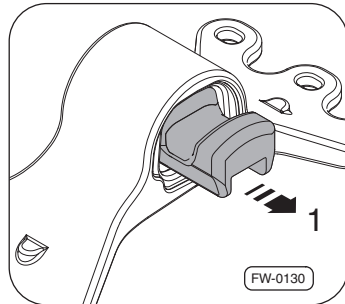

Fig. 40 · Remove rubber dampers
3. Check and press out –arrow 1– the rubber dampers Fig. 40 to the side from both mounting brackets (bearing blocks).